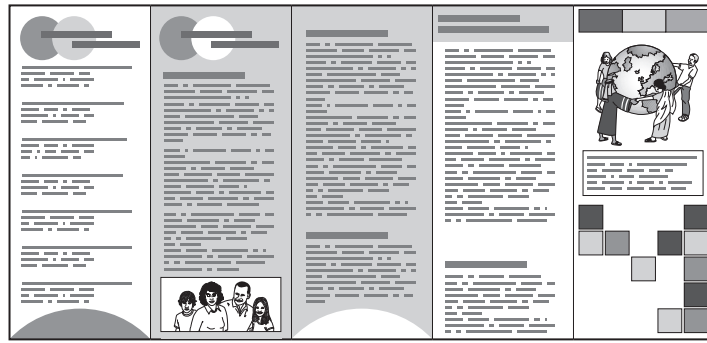

Fig. 4
- 4 Fig. 4 shows a coloured four-fold advertising leaflet printed on gloss paper.